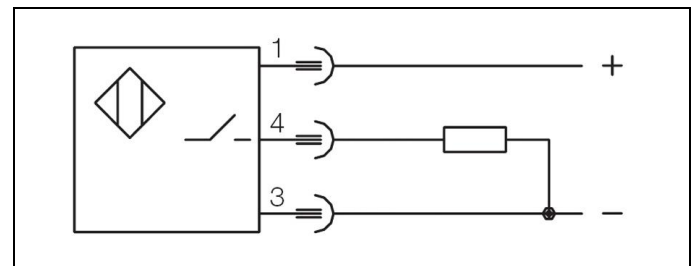

Fig. 8: Circuit diagram for pnp (+) sensor(s)
- Proceed with S2 correspondingly so that there will be a signal course as per figure 8.